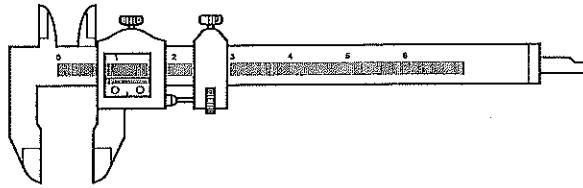

Fig. 2
- 3 (a) Name the measuring tool shown in Fig. 2.
- (b) Give **one** specific use for the tool in Fig. 2.